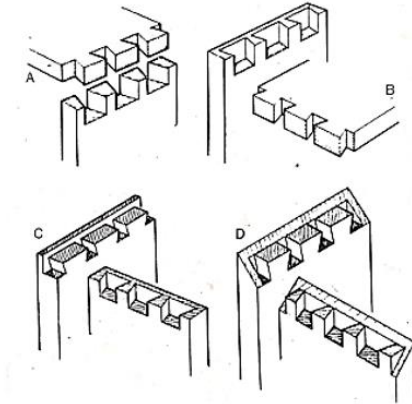

Fig. 3.9: Dovetails
**Dovetails: Fig. 3.9 and 3.10 below:**